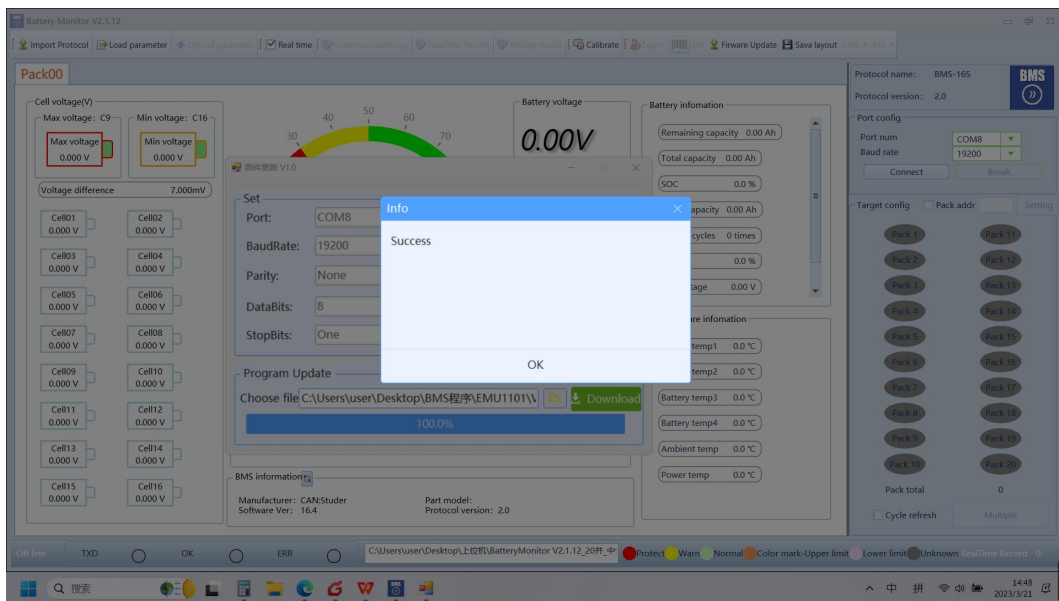

Figure 9-4
- 4) After the program is downloaded, the prompt download is successful, and click "OK" to complete the upgrade, Figure 9-4